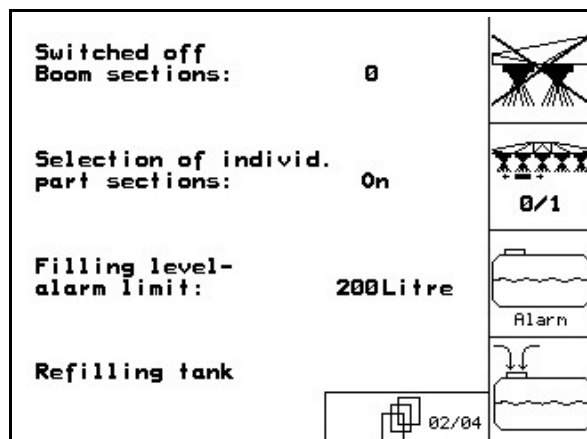

Fig. 23
- Via the function icon  you can permanently switch off individual boom sections. The indicated figure (Fig. 23/1) informs which of the boom sections are permanently switched off (Figure 0 = no boom section switched off). Please refer page 38.
→ In the display appears either the word "on" (function switched on) or "off" (function switched off) (Fig. 23/2).